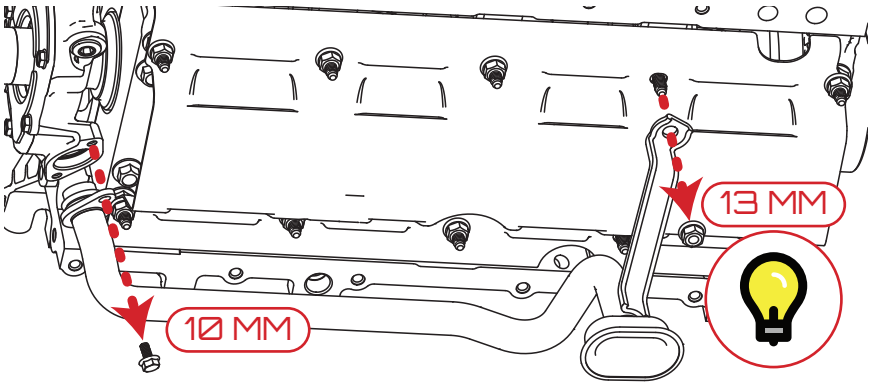

Figure 1 - Removing the Factory Oil Pickup Tube (Screen)
6. Remove the factory oil pickup tube (screen) from the oil pump and main stud(s) by using a 10 mm and 13 mm (14 mm for ARP studs) tool, as shown in Figure 1. Set the pickup tube (screen) aside until reinstallation.
💡 NOTE: Figure 1 is a representative diagram only. Nut and screw locations vary among vehicles.